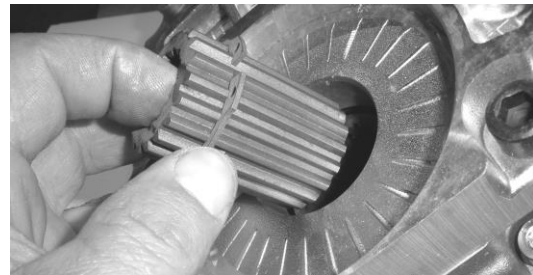
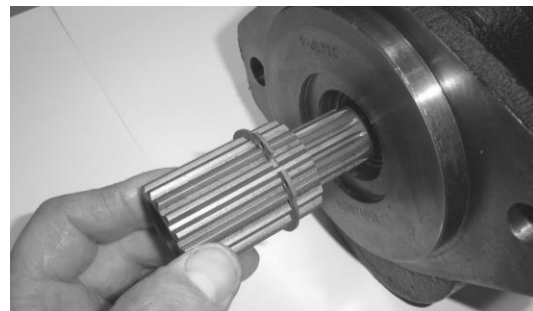

Figure 5—Remove the splined coupling from the increaser as shown.
Figure 6—View showing coupler removal from the pump shaft.
2. Separate the pump from the increaser and locate the splined coupling. It may remain in the increaser (**Figure 5**) or on the pump shaft (**Figure 6**). Pull the coupling out of the increaser or off the pump shaft as necessary.